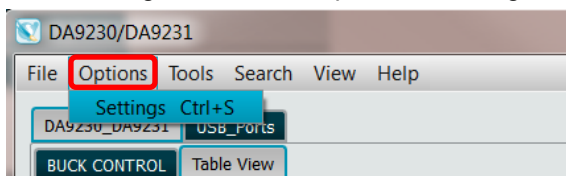

Figure 7: Open GUI Settings
1. Open DA9230/DA9231 GUI and go to menu -> Options-> Settings. See Figure 7.